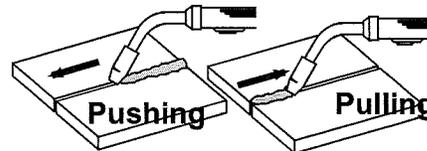

Figure 6. Gun Travel Direction
1. **TRAVEL DIRECTION** is the direction the gun is moved along the weld joint in relation to the weld puddle. The gun is either **PUSHED** (see Figure 6) into the weld puddle or **PULLED** away from the weld puddle.